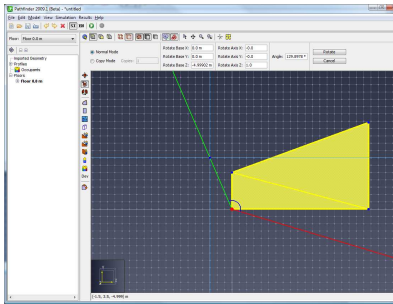

Figure 137. Reference line (red) and rotation angle (green)
- The second defines a reference vector extending from the rotation base (Figure 137).